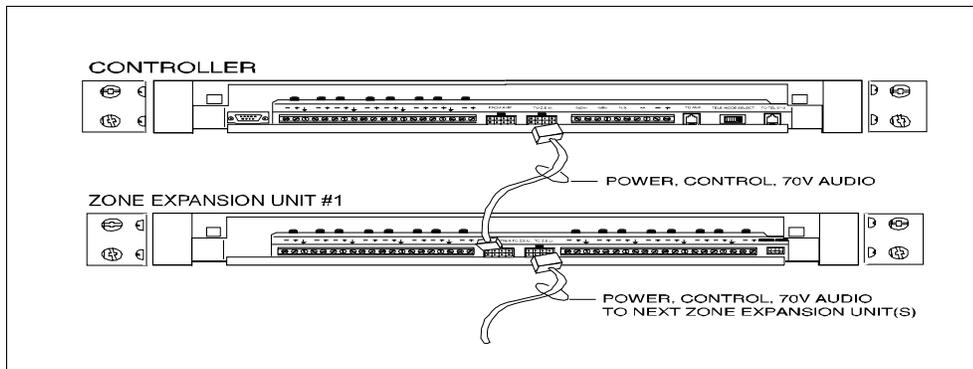

Figure 7. 8-pin Molex Connector from Controller to Zone Expansion Unit(s)
2. Connect 8-pin Molex from Controller to Zone Expansion Unit(s), if used. See Figure 7.